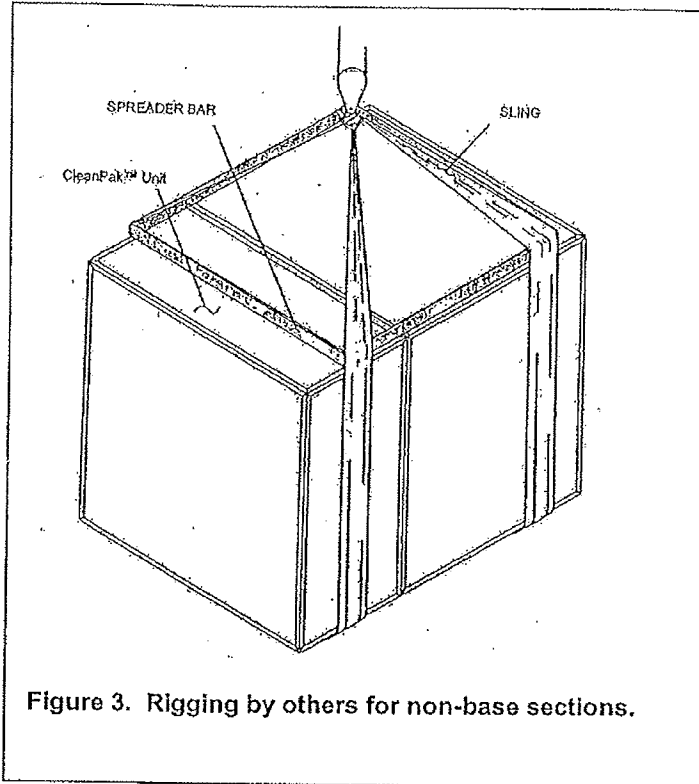

Figure 3. Rigging by others for non-base sections.
- F. Do not lift non-base units or subassemblies by attaching clevis, hooks, pins, bolts, etc. to casing, casing hardware, angles, tabs or flanges. Rig non-base units only as shown in Figure 3.